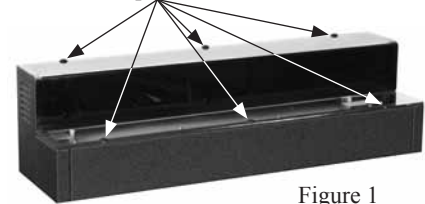

Figure 1
- Remove six screws from each top, remove tops. (Fig. 1)